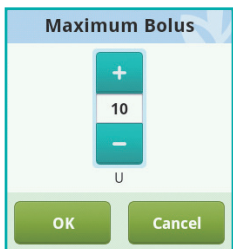

Figure 23
b) The Maximum Bolus setting allows you to set an upper limit on the amount of insulin given in a single bolus (Figure 23). Use the “+” and “-” buttons to select the value. Choose OK to save and exit or Cancel to exit without saving.